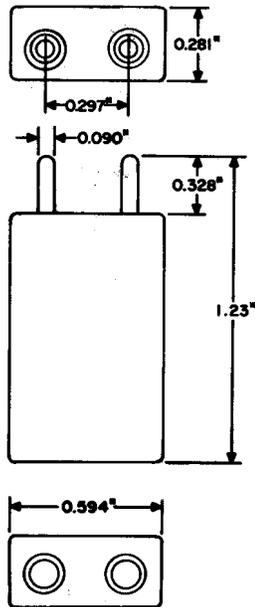

Fig. 2—477A Plug
2.02 477A: The 477A plug (Fig. 2) is provided with two-pin terminals at one end, and arranged for an L2AL cord at the other end. This plug is used with the 1027A headset.